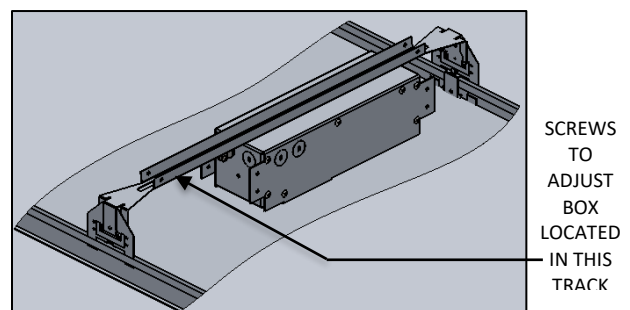

FIG. 19- J-BOX ASSEMBLY ORIENTATION
15. From an adjacent opening attach, the J-BOX to the GRID with the SUSPENSION BARS [BY OTHER] attached on the top. (Position of the J-BOX can be moved by loosening the top 2 SCREWS) as shown below in FIG. 19.